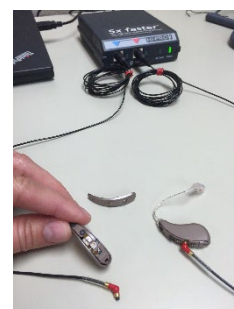

Figure 22: Processor set-up
- Connect the Processors to the HI-PRO 2, using programming cables (Figure 22).